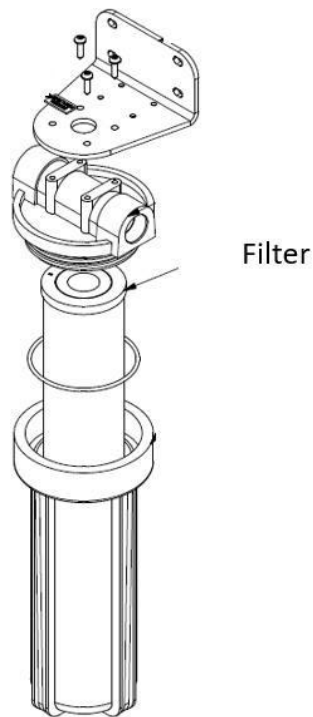

Figure 3.0: 5-micron prefilter
- 3) Remove the oil drain plug (Refer to Figure 3.0) and direct the oil to a catch basin. Allow the oil to drain empty.